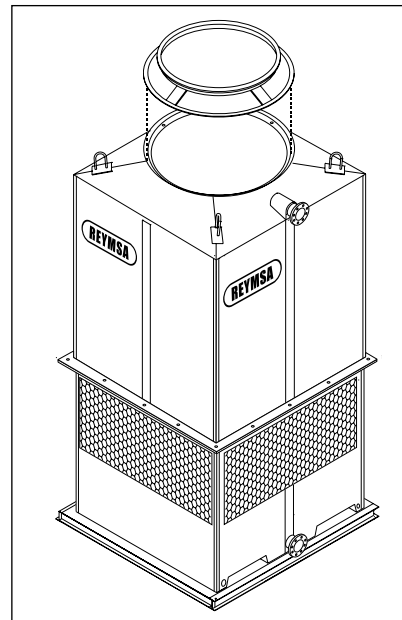
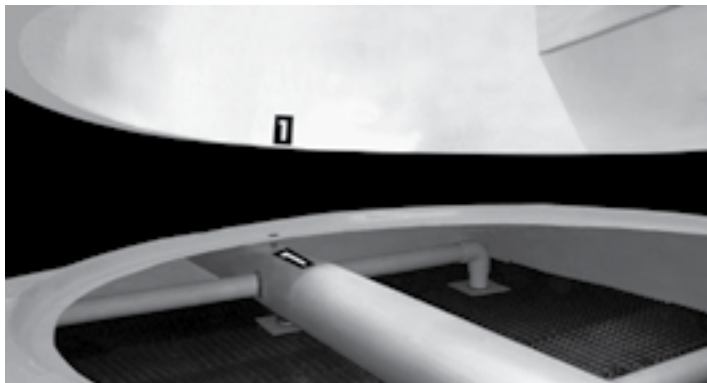

Figure A-125: Fan adaptor installation
Figure A-126: Fan adaptor alignment
- A. Before installing the Fan Duct (see sections A.2, A.3, A.5 for reference), place the Fan Adaptor on the receiving flange located on top of the Tower (see Figure A-125); make sure the bolt holes and the marks inside the Fan adaptor are aligned (Figure A-126). Then secure it using the stainless steel nut and bolt sets supplied by REYMSA.